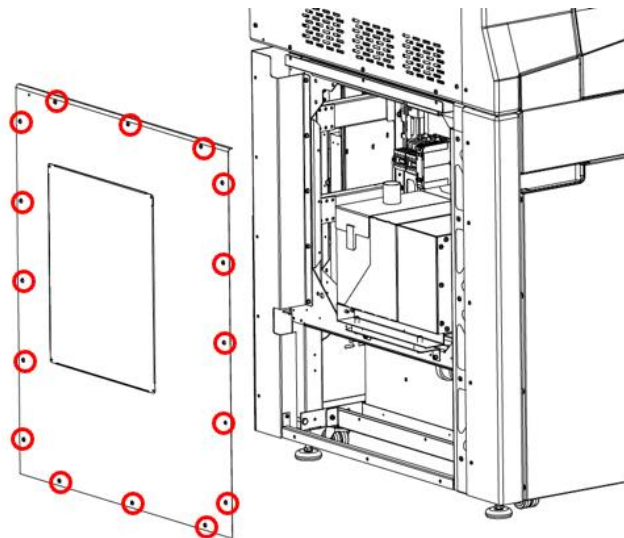

Fig. 109 Lower left cover of the printer
5. Remove the lower left cover by unscrewing the 16 fixing screws (Fig. 109).